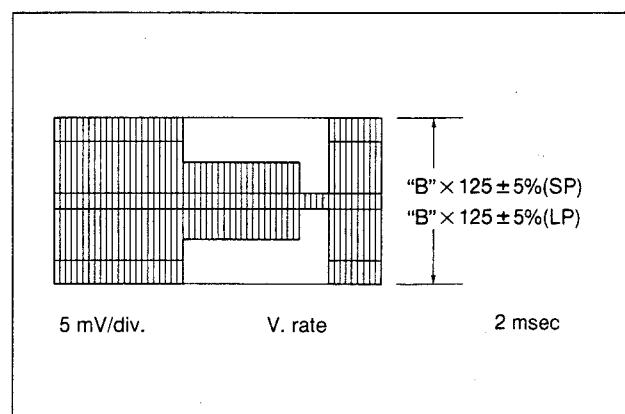

Fig. 3-3-3 SP/LP REC colour level
- (1) Connect the adjustment tool (H3) to the measuring point (D1).
- (2) Apply the external trigger signal to D.FF (E) to observe the PB colour waveform at the measuring point.
- (3) Play back the SP colour bar signal of the alignment tape (A1).
- (4) Press the channel buttons (+, -) simultaneously to enter the manual tracking mode. (This also brings tracking to the centre.)
- (5) Adjust tracking by pressing the channel buttons (+, -) so that the PB colour waveform becomes maximum. Make a note of the higher PB colour level as "B" at this time.
- (6) Record the colour bar signal in the S-VHS SP mode, and play back the recorded signal.
- (7) Set the VCR to the EVR mode by transmitting the code (F1) from the Jig RCU for more than 2 seconds.
- (8) Set the EVR address to (F2) by pressing the button of the digit-key remote controller.
- (9) Adjust with the channel buttons (+, -) on the VCR (or on the remote controller) so that the higher level channel becomes the specified value (G) of the note "B" level as shown in Fig. 3-3-3. (Adjust before recording, then confirm it by playing back.)
- (10) After adjustment, record the colour bar signal then playing it back again. At this time, confirm that there is no inverting phenomenon or noise appearing on the play-back screen.
- (11) Release the EVR mode of the VCR by transmitting the code (F1) from the Jig RCU again. (When the EVR mode is released, the adjusted data is memorized.)
- (12) Repeat steps (3) to (11) in the S-VHS LP mode.